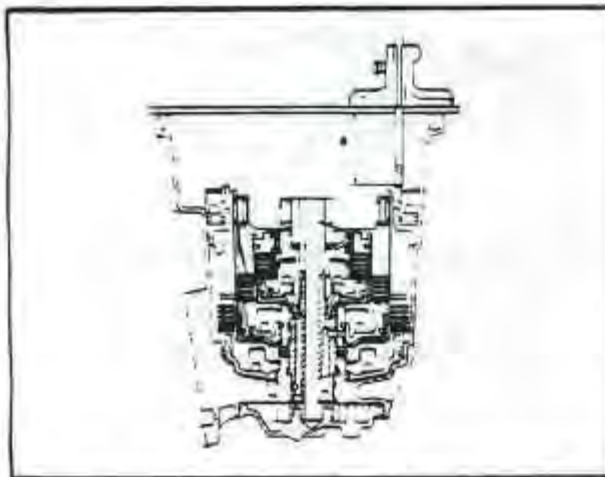

Fig. 40 B-2 APPLY PISTON MEASUREMENT
Subtract this measurement from the distance measure obtained in Step "d" to determine the final dimension "B". *Fig. 40*
58.72 mm	Dimension "B" Fig. 40